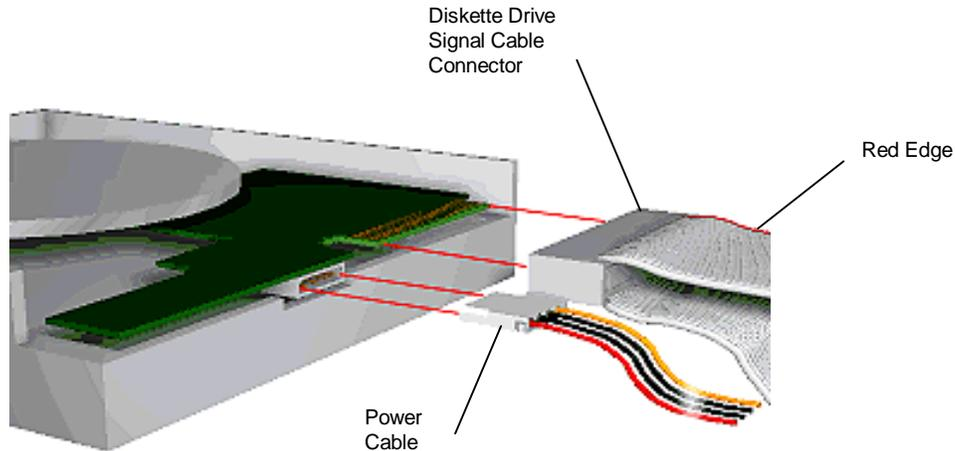

Figure 3-19 Connecting 1.2-MB Diskette Drive Cables
1. Connect the diskette drive signal cable connector to the signal connector on the diskette drive (see Figure 3-19).